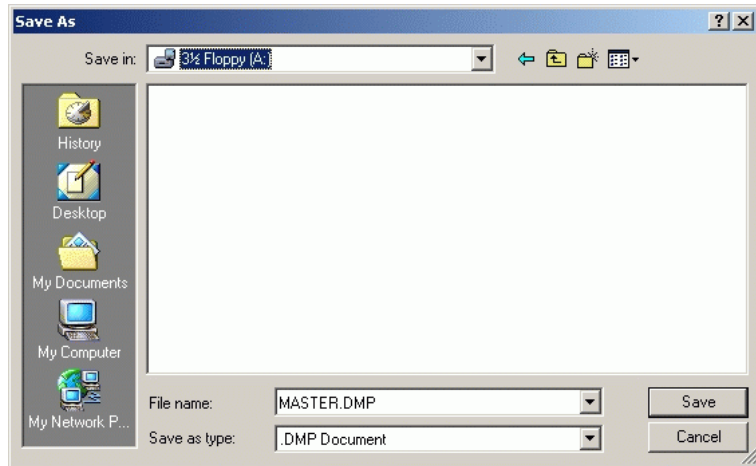

Figure 4-16 Save As Dialog Box
4. Select the *Save Target As* menu option. The *Save As* dialog box displays (Figure 4-16 on page 4-24).